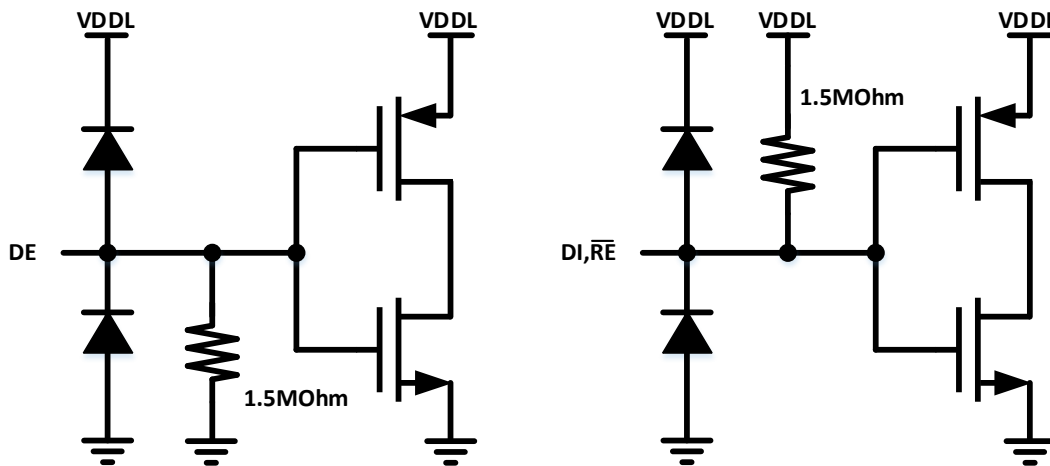

Figure 9-1. Input equivalent circuit
The CA-IS2092A device includes three logic inputs on the logic side: receiver enable, driver enable and driver digital input. The driver enable control DE pin has an internal weak pull-down to GND1, while the digital input DI and receiver enable pins have an internal pull-up to VDDL, see Figure 9-1 the input equivalent circuit.
The transmitter converts a single-ended input signal (DI) from the local controller to differential outputs on the bus lines A and B. The truth table for the transmitter is provided in Table 9-2, the driver enable control DE pin has an internal weak pull-down to GND1, see Figure 9-1 the input equivalent circuit; while the digital input DI pin has an internal pull-up to  $V_{DDL}$ . The driver outputs and receiver inputs on the bus side are protected from  $\pm 8\text{kV}$  electrostatic discharge (ESD) to GND2, as specified by the Human Body Model (HBM). The driver outputs also feature short-circuit protection and thermal shutdown.